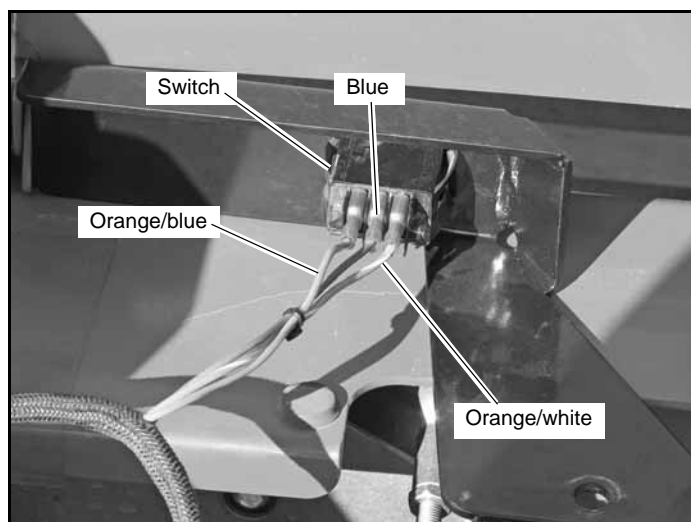

Figure 3-15
9. Attach the three wires on the wiring harness to the BAC-VAC™ switch. Figure 3-15